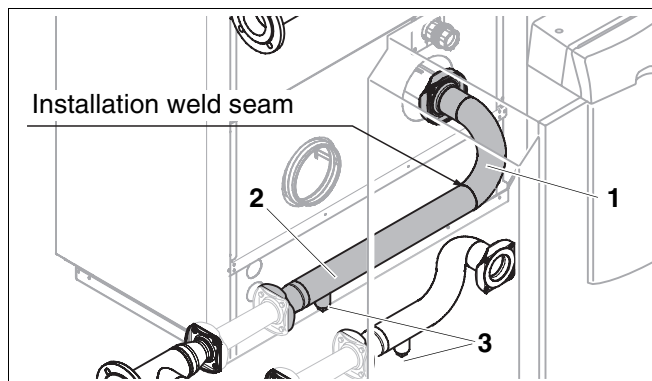

Fig. 13 Welding the long return piece
- Place the flange of part 2 of the long return piece (Fig. 13, **Item 2**) and gasket on the second pump and fasten using 4 bolts and nuts.
The coupling on the return connection (Fig. 13, **Item 3**) is provided for draining.